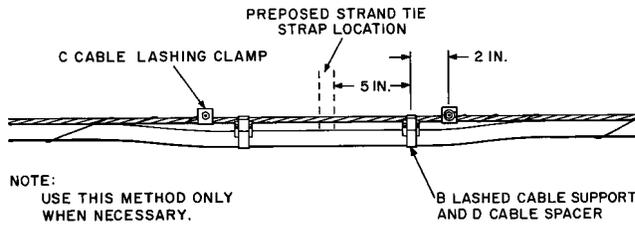

Fig. 6—Alternate Method of Sheath Protection
- (b) **Alternate Method:** If necessary, the lashing wire can be cut and terminated on cable lashing clamps. Spacers and lashed cable supports are then used as shown in Fig. 6.